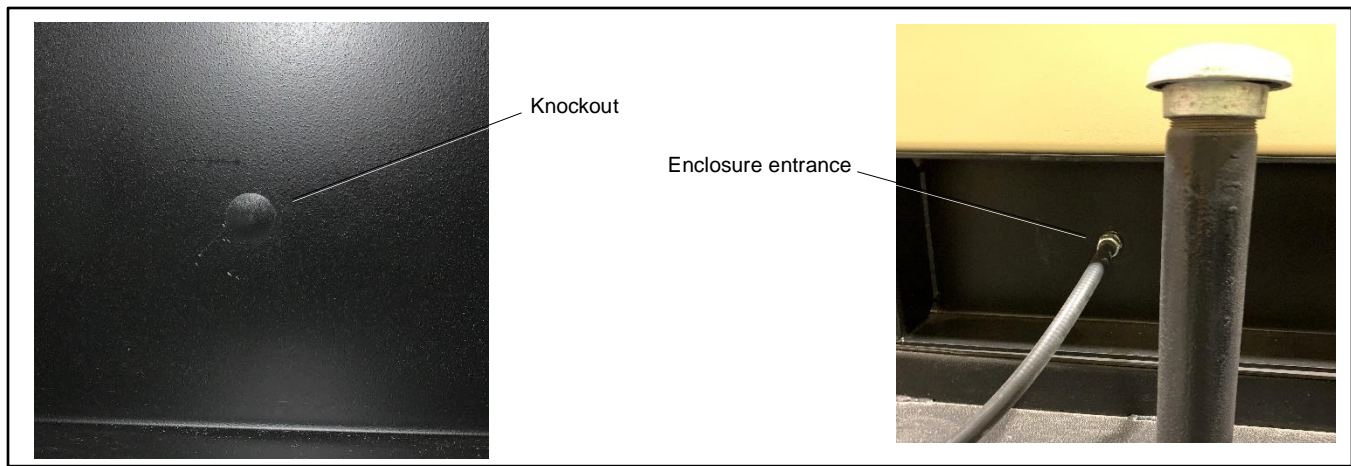

Figure 51 Enclosure Entrance
2. Locate and remove the knockout in the enclosure base. See Figure 51.